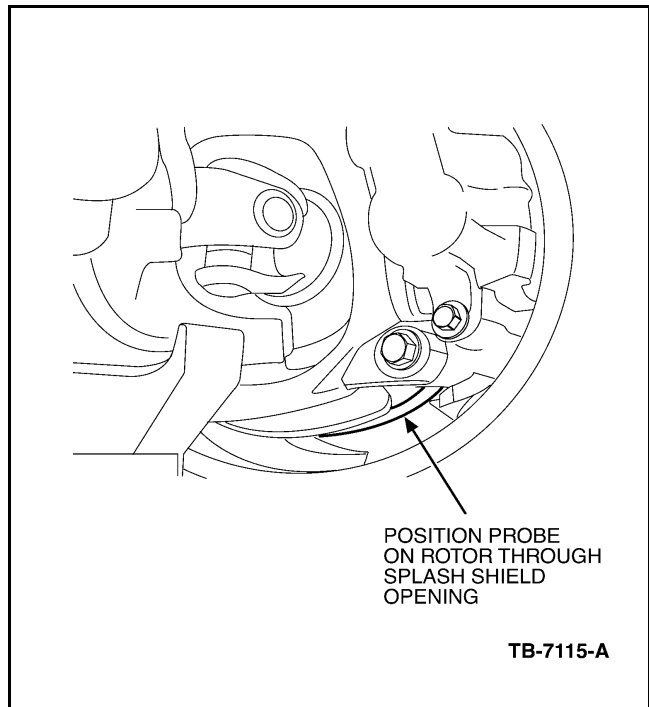
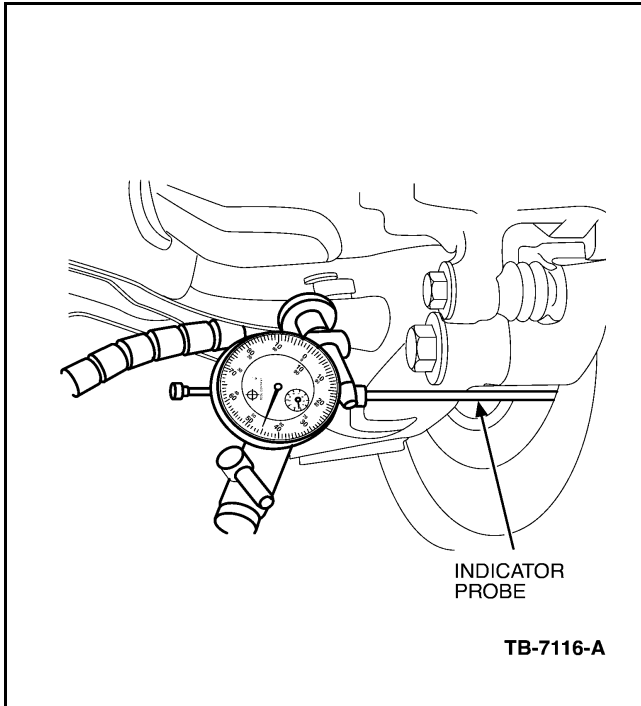

Figure 4 - Article 03-11-2
Figure 5 - Article 03-11-2
7. While adjusting goose neck, place probe of indicator on Rotor where splash shield has a V-type opening on inboard side of suspension assembly or about at the 5 O'clock position (Figure 4). Set the probe so that it is free to move in the lateral direction (Figure 5). With indicator and probe set in their mid-point range of operation, tighten the goose neck until it is rigid enough to assure accurate readings.